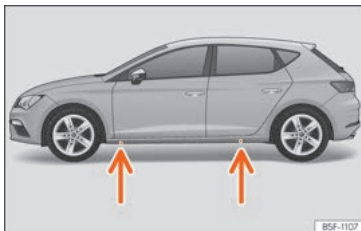

Fig. 78 Crossbar: brands.
- Find the support point on the strut (sunken area) closest to the wheel to be changed » » » **Fig. 78**.